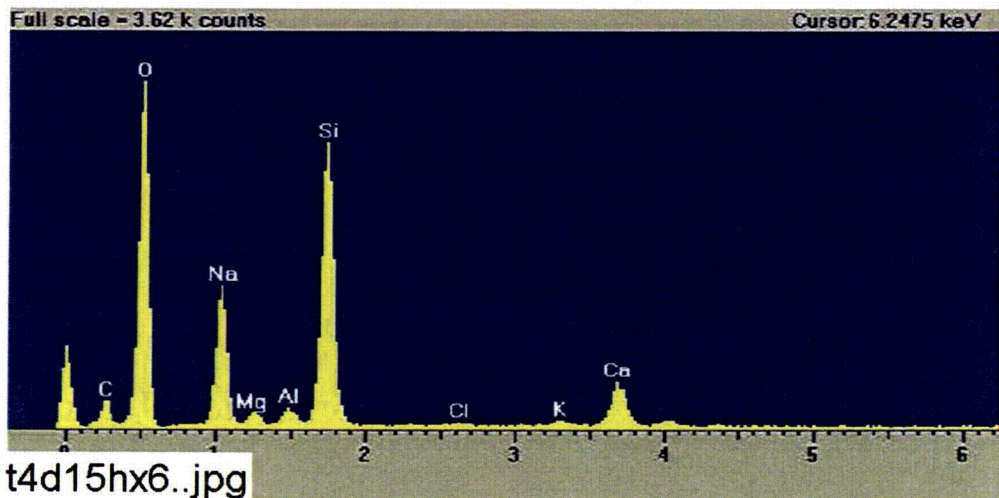

Figure B2-4. EDS counting spectrum for the spot of the film between the fibers shown in Figure B2-3. (t4d15hx6.jpg)
- Figure B2-4. EDS counting spectrum for the spot of the film between the fibers shown in Figure B2-3. (t4d15hx6.jpg) B2-5